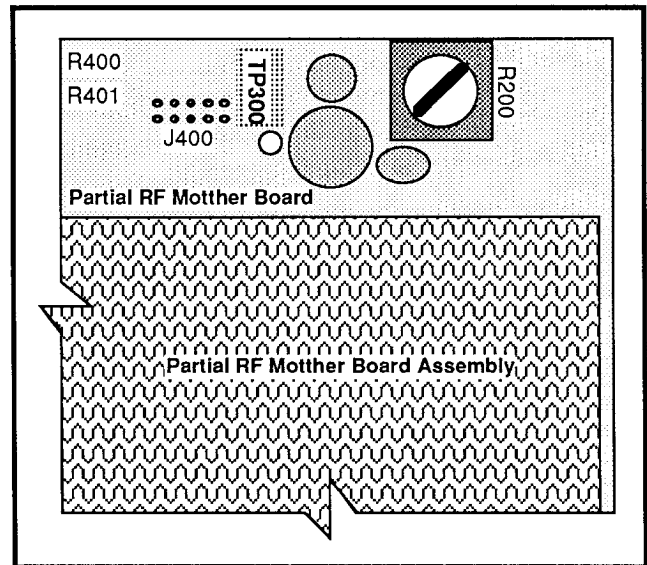

Figure 4-3. Location of TP300 on the RF Mother board.
- Monitor TP300 on the RF Mother board with the voltmeter. See Figure 4-3 for the location of TP300 on the RF Mother board.